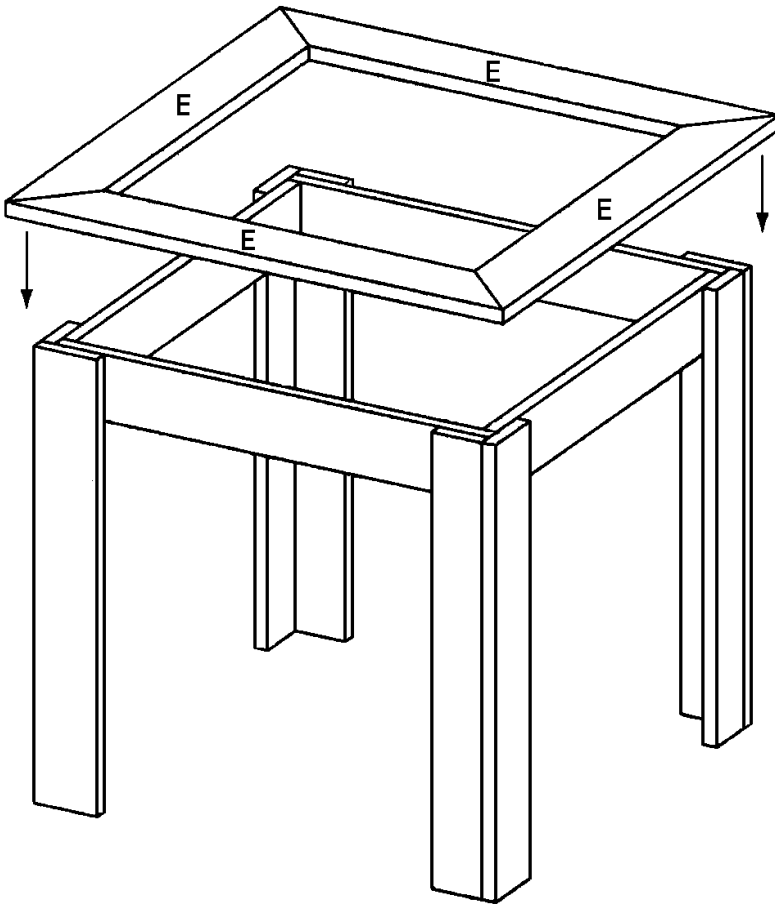

Figure 5
- Attach each of the lower trims (E) to the base assembly, as shown in *Figure 5*. Apply glue to the top edge of the long and short bases (A and B), screw through the lower trims (E) into the wide and narrow legs (C and D) and the long and short bases (A and B). Use 1-1/2-inch screws spaced about 6 inches apart. The lower trims should overhang the legs by 1 inch. Use 1 1/4-inch (3d) finishing nails to keep the outside corners of the miter joints aligned. Nail across the joint from each side, starting about 3/4 from the end. Offset the nails slightly to avoid hitting the first nail with the second one.
- Cut four upper trims (F) from 1 x 4 pine, each measuring 31 inches long.